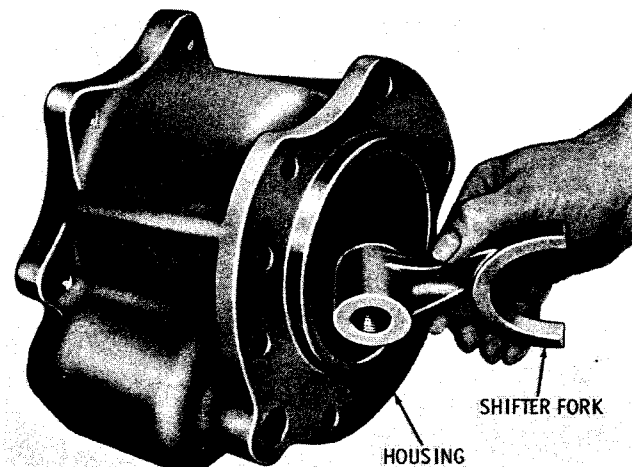

Fig. 6-4. Removing (or installing) disconnect shifter fork
(8) Remove the disconnect shifter fork (fig. 6-4).
(9) Do not remove oil seal 13 (foldout 14) from housing 12 unless parts replacement is necessary (removal will destroy the seal).
(1) If oil seal 13 was removed from housing 12, install a new seal. Press the seal, spring-loaded lip first, into the housing until it seats lightly against the housing shoulder.
(2) Install the disconnect shifter fork (fig. 6-4).